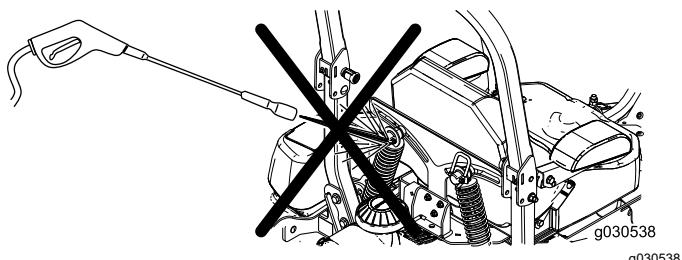

Figure 101
**Note:** Do not clean the shock assemblies with pressurized water (Figure 101).